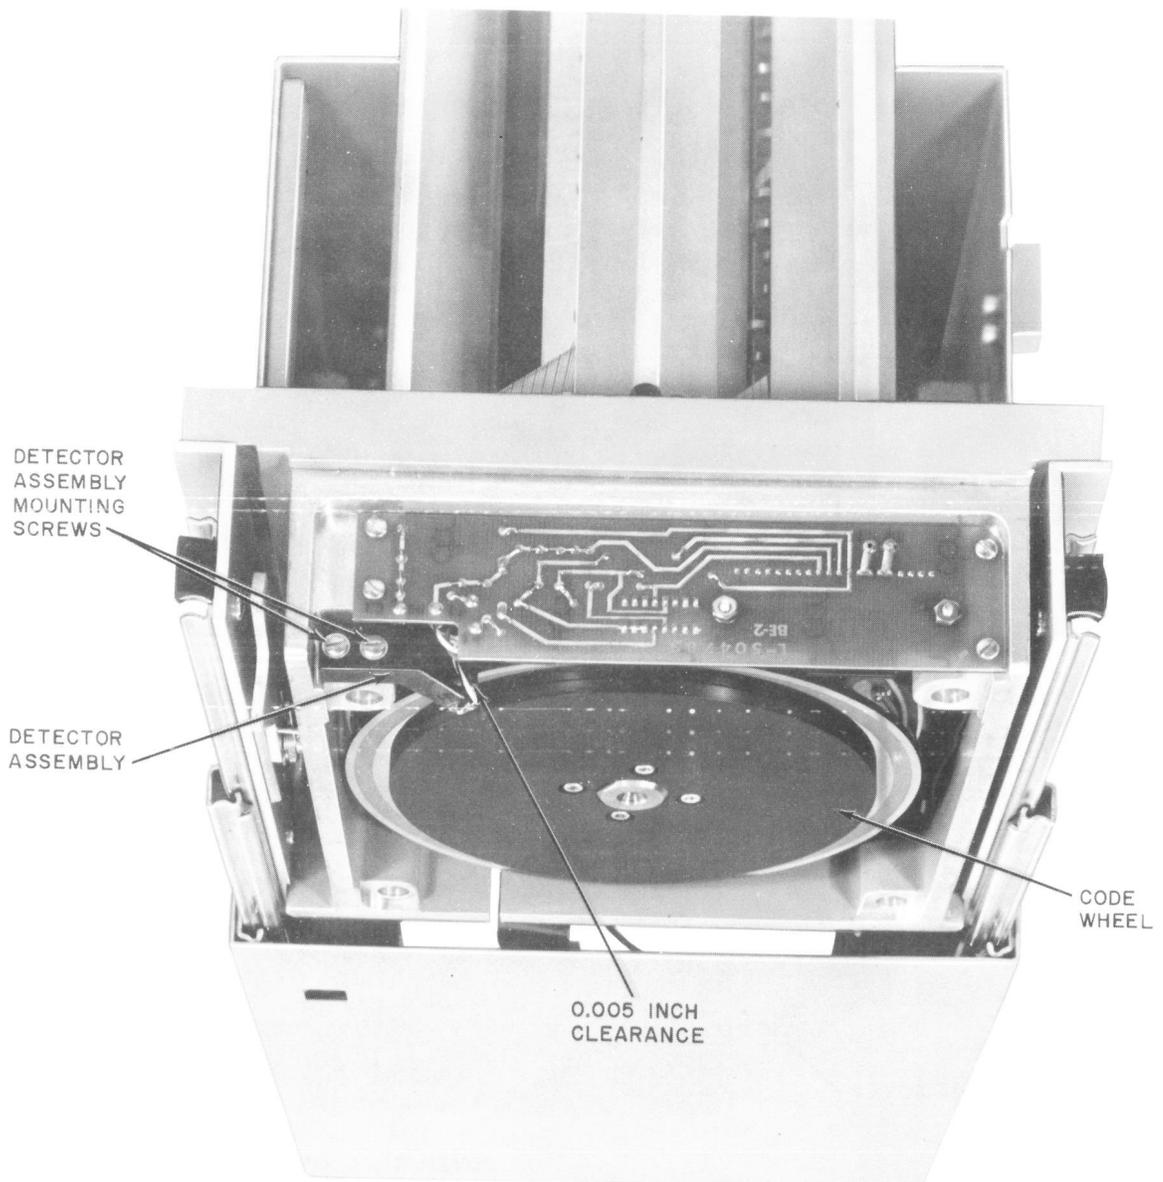

Fig. 6—Bottom of Recorder Unit With Cover Removed
***2.08 Detector Assembly:** The detector assembly (Fig. 6) shall be positioned about the code wheel to provide a clearance between the code wheel and the detector of **0.005 inch**, gauged with the mylar stock.
- (4) Check the clearance between the detector assembly and the **lower surface** of the code wheel (Fig. 6) by inserting the mylar stock in the clearance. Do **not** apply undue pressure.
- (1) Pull the recorder unit out on its slides (1.05).
- (2) Remove the cover from the bottom of the recorder unit [2.08(3)] to expose the terminals on the code wheel amplifier (Fig. 6).